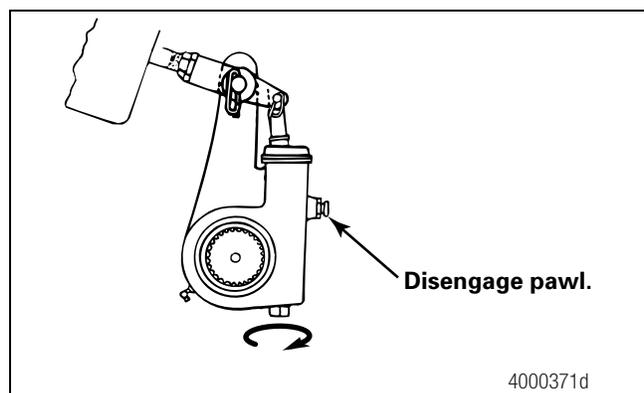

Figure 7.9
2. Use a wrench to turn the manual adjusting nut COUNTERCLOCKWISE until the brake linings contact the drum. Figure 7.9. Then back-off the adjusting nut 1/2 turn in the opposite direction.